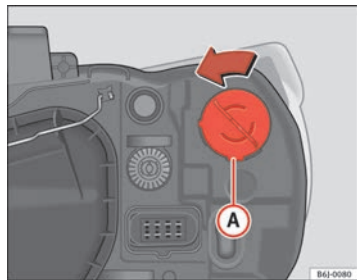

Fig. 149 Single turn signal lamp
- Rotate the bulb holder ⇒ fig. 149 ① to the left and pull.